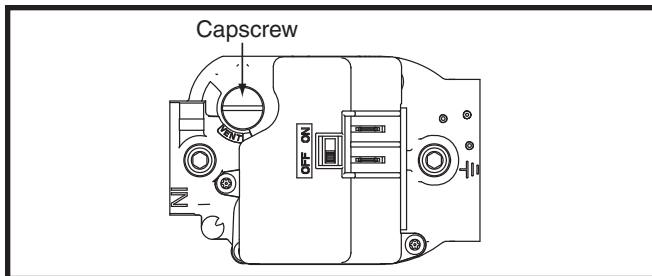

Figure 14. Regulator Capscrew
- b.) Remove the regulator capscrew (Figure 14) from the INLET side of the regulator.